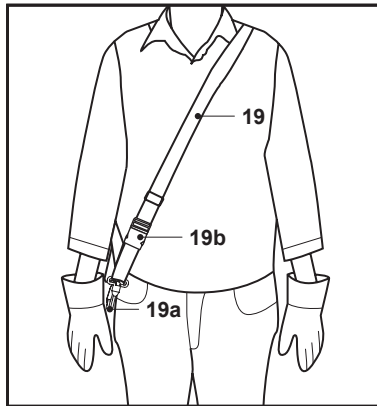

Fig. 12
1. Place the harness (19) so that it runs over the left shoulder, crossing the chest and back. The securing clip (19a) must be located at the right hip. The quick release (19b) must be in front (Fig. 12).